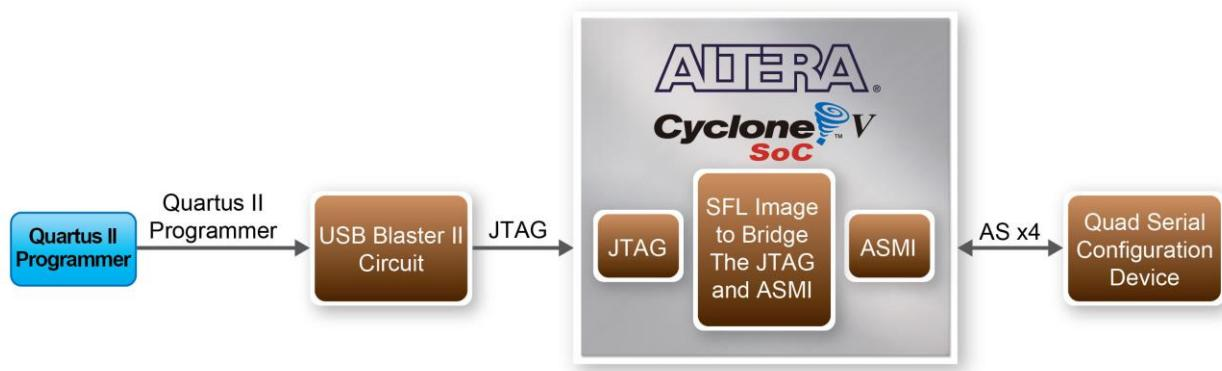

Figure 3-13 Programming a quad serial configuration device with SFL solution
- Users need to use Serial Flash Loader (SFL) to program the quad serial configuration device via JTAG interface. The FPGA-based SFL is a soft intellectual property (IP) core within the FPGA that bridge the JTAG and Flash interfaces. The SFL Megafunction is available in Quartus II. **Figure 3-13** shows the programming method when adopting SFL solution.